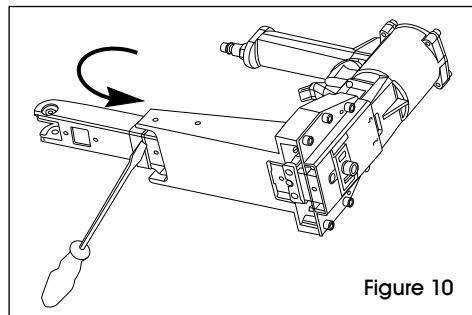

Figure 10
2. Clear the jam and reinsert the magazine. Pry jam release shut. (See Figure 10)